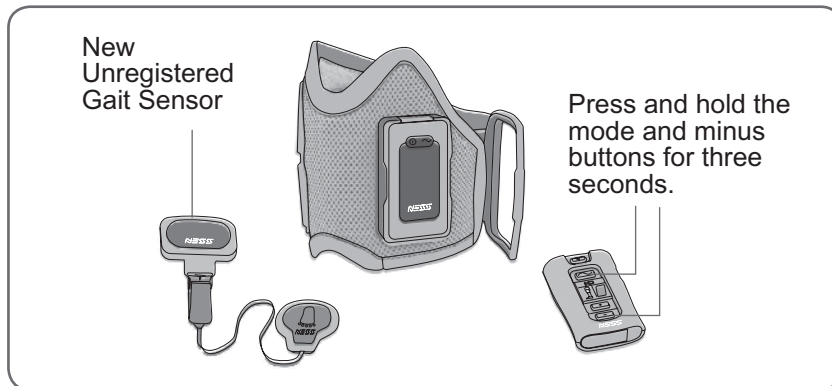

Figure 74: Registering a new Gait Sensor.
2. Place the new Gait Sensor, FS Cuffs with RF Stim Units, and Control Unit close together on a table but not touching. See Figure 74.